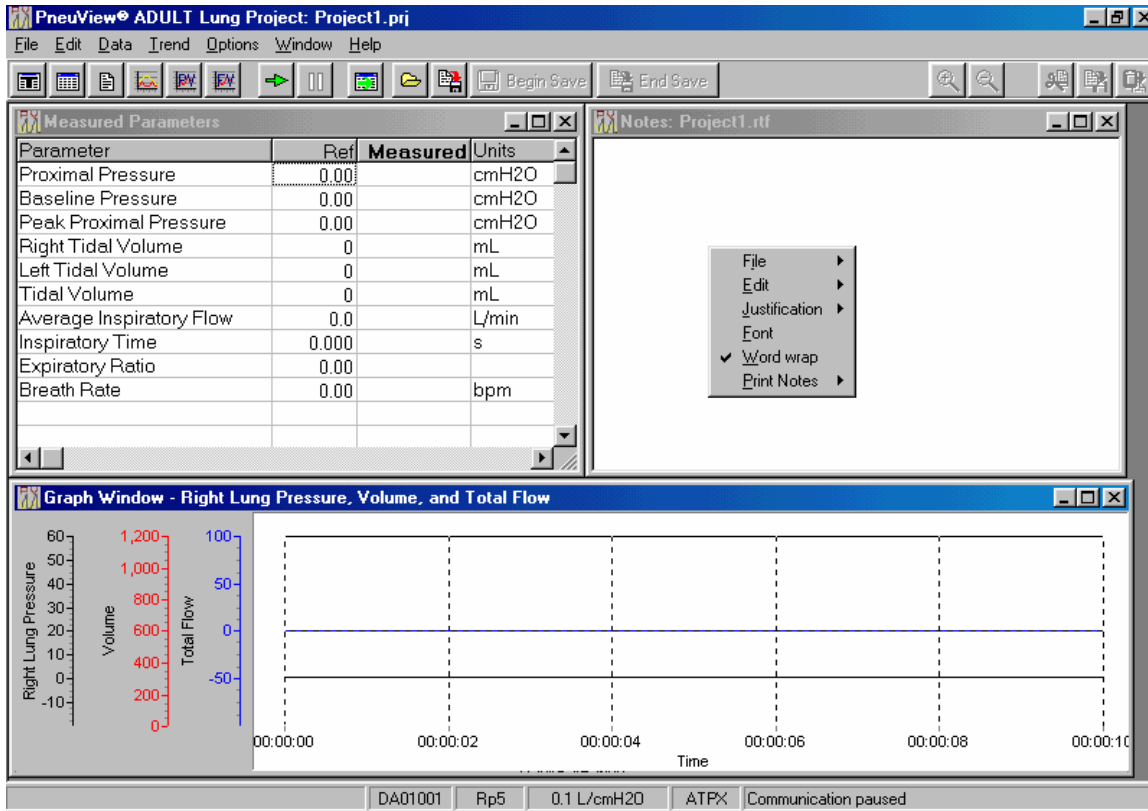

Figure 7 – Notes Window and Menu
B. Notes. The Notes window is a text editor and provides capabilities for entering, editing, and saving text. Right clicking the mouse in the notes window can access a menu. The menu commands are File, Edit, Justification, Font, Word Wrap, and Print Notes. Standard sub-menus appear when selecting these commands. See Figure 7 for Notes Window and Menu.